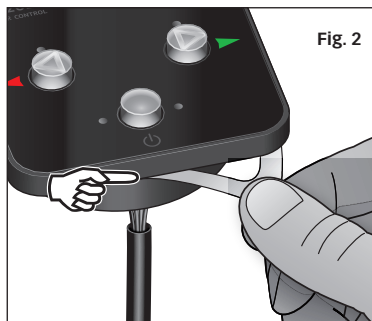

Fig. 2
- (Fig. 2) detach the protective paper from the adhesive gasket taking care not to touch the adhesive side with your fingers;